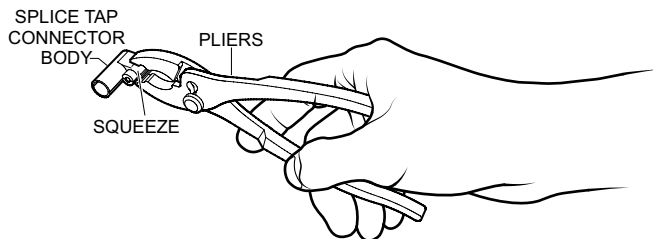

Figure 11. Squeezing Connector Body
6. Close the splice tap connector body. To ensure that a good connection has been made, squeeze the connector body with pliers (Figure 11). This will ensure that the **BLACK** wire inside the body has had its insulation removed and is now making contact with the adjacent terminal.